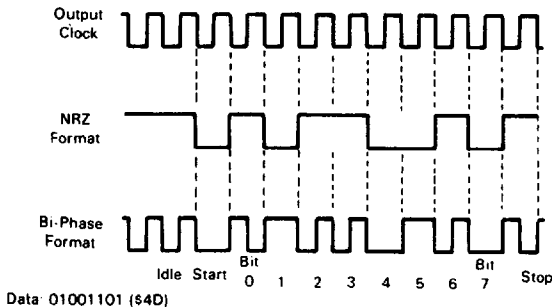

Figure 22 : SCI data formats.
The start bit (0), eight data bits (beginning with bit 0) and a stop bit (1), will be transmitted. If TDRE is still set when the next byte transfer should occur, 1's will be sent until more data is provided. In Bi-phase format, the output toggles at the start of each bit and at half-bit time when a «1» is sent. Receive operation is controlled by RE which configures P23 as an input and enables the receiver. SCI data formats are illustrated in Figure 22.